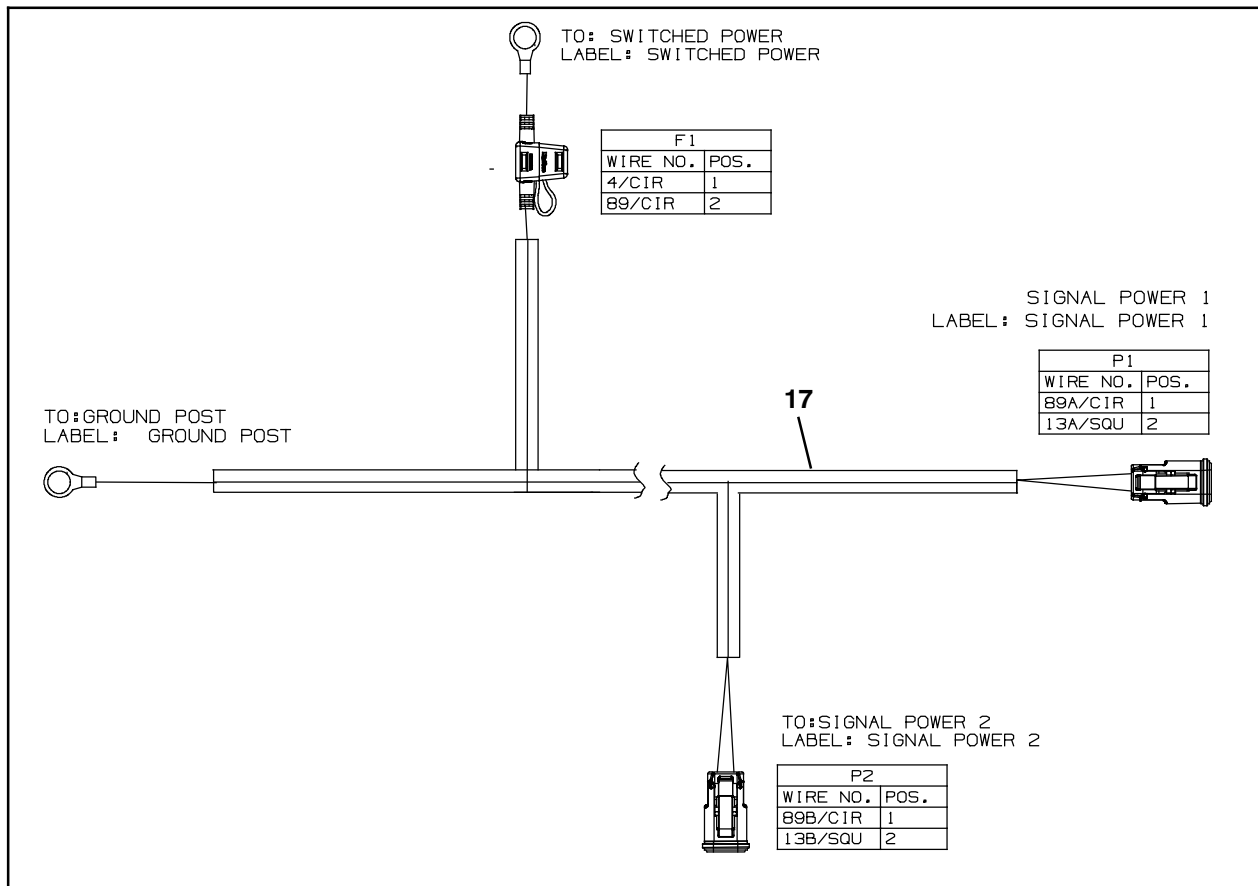

**FIG. 17**
30. Connect the blue spotlight harness (17) to the ground standoff. (Fig. 17/Fig. 19)